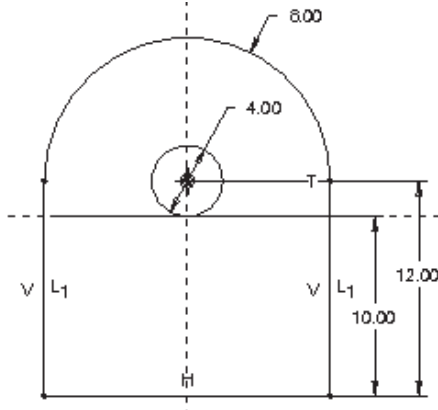

Figure 5-57 Sketch for the base feature with dimensions and constraints
- Create the base feature, refer to Figures 5-57 and 5-58.
1. Draw the sketch using various sketcher tools and add the required constraints and dimensions shown in Figure 5-57. When you initially draw the sketch, it is dimensioned automatically and some weak dimensions are assigned to it.
2. Modify the dimension values to those shown in Figure 5-57.